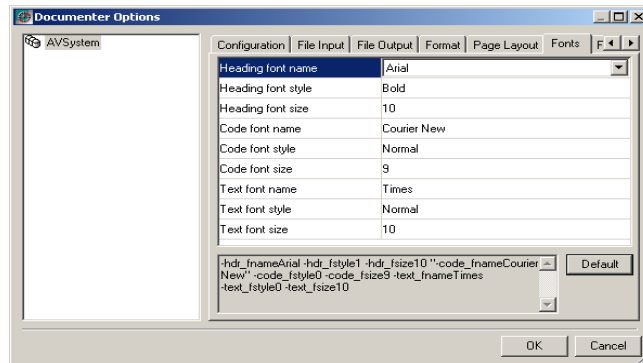

Figure 192: Documenter Options dialog box, Fonts tab
- Open the Documenter Options dialog box (as described in *General*, page 261), and click the Fonts tab. See *Figure 192*, page 270.